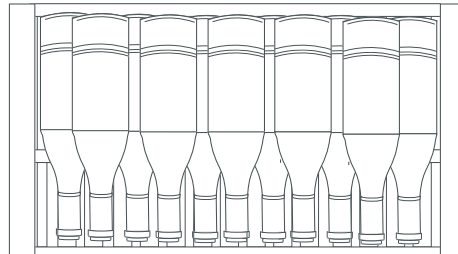

Fig. 4
- The third shelf holds 11 bottles when stacked as per Fig. 4; 6 bottles across the shelf, with 5 bottles